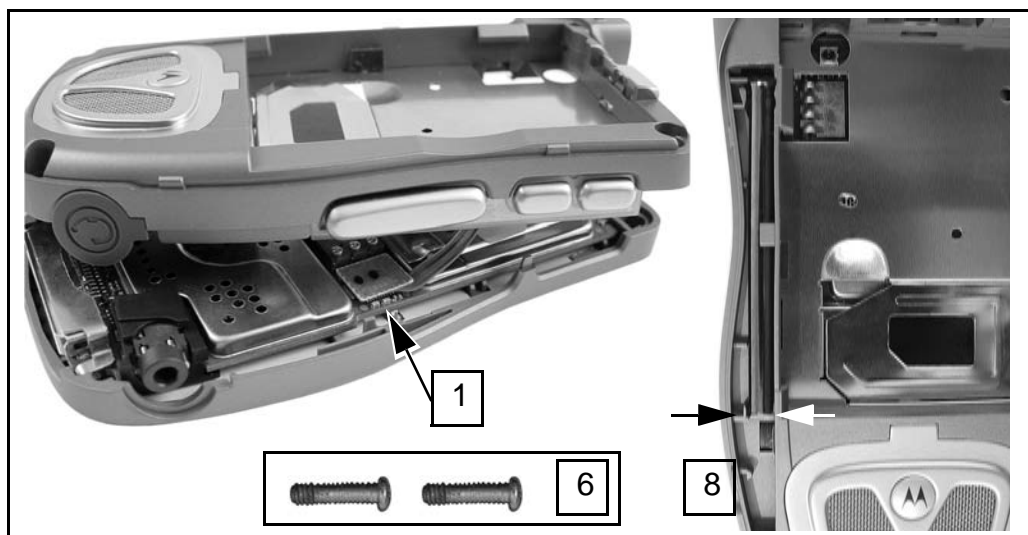

Figure 7-12.
1. Replace flex connector carefully to avoid crushing contacts. “Massage” connector in a circle to ensure complete contact (see Figure 7-12).